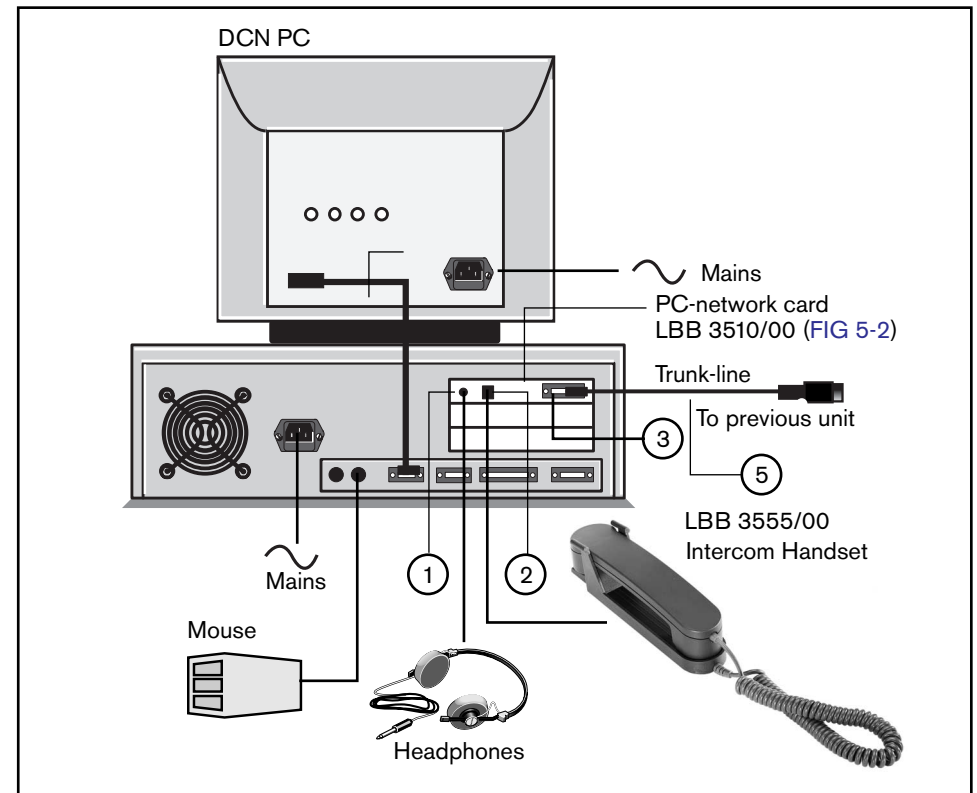

FIG 5-4 Interconnection Personal Computer (PC)
- For connection via Network card see FIG 5-4.
For operator monitoring, connect headphones to the 3.5 mm jack socket **(1)** located on the PC Network card (FIG 5-4).